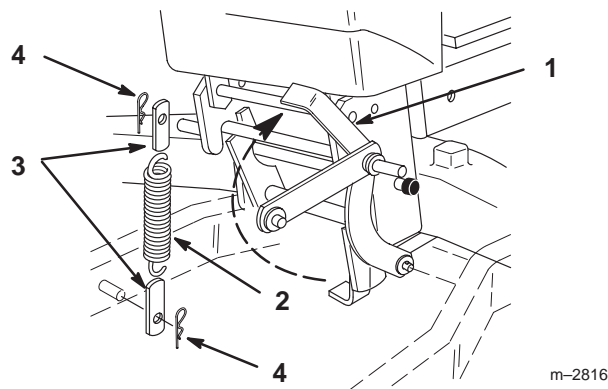

Figure 25
12. Raise arm of lift link into the relaxed position (Fig. 25).
13. Remove lift spring from between frame and lift link (Fig. 25).